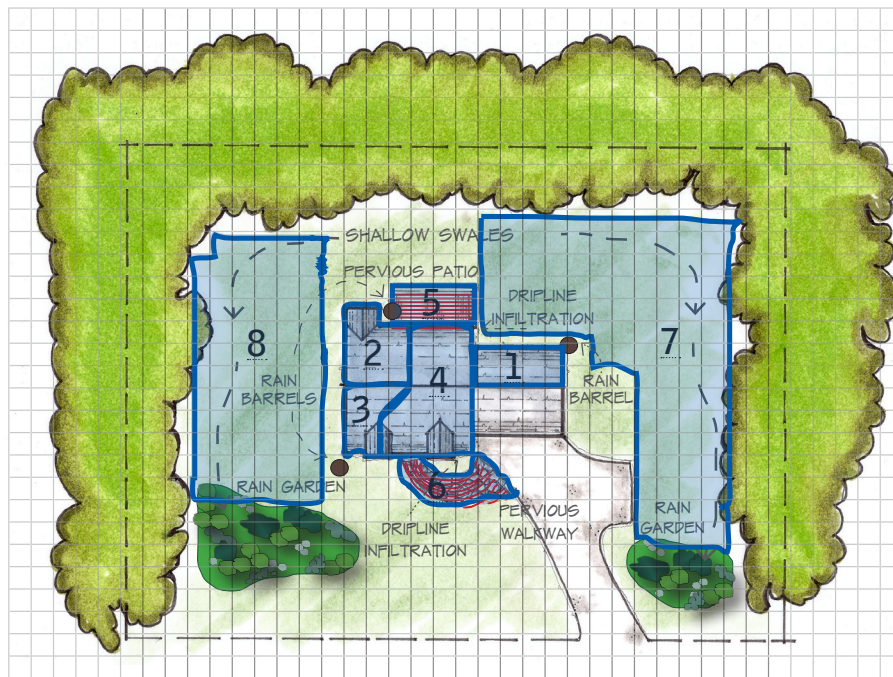

Figure 7. Estimate the drainage area within each boundary line.
3. To estimate the size of the drainage area to each stormwater endpoint, you can use the measurements that you recorded on your Project Planning Worksheet to estimate the average area within each boundary line, or if you used the **Site Sketch Grid** in Appendix C, you can count the squares within each boundary line. The example property in figure 7 is a 1-acre lot. This makes each grid box approximately 50 ft2. The estimated drainage areas to each stormwater treatment practice are summarized in Table 1 below.